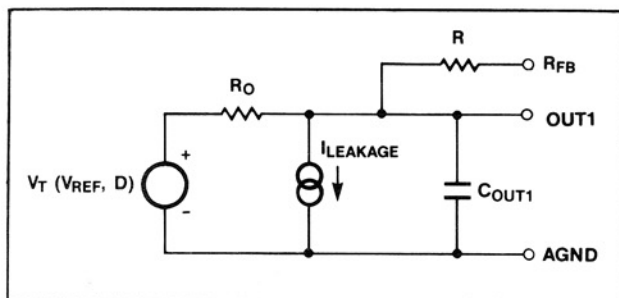

Figure 2. MX7548 Equivalent Analog Output Circuit
Figure 2 shows the equivalent circuits for the MX7548 analog section. The $I_{LEAKAGE}$ current sources represent junction and surface leakage currents. The equivalent output resistor of the DAC is R_o , which varies with digital input code from $0.8R$ to $2R$ (infinite at zero code), where R is typically 11k Ω . Capacitor C_{OUT1} represents the capacitances of the switches used in the R-2R ladder. When inputs are switched from low to high, the capacitance at OUT1 changes from about 40pF to 100pF. This capacitance is code-dependent and is a function of the number of ON switches that are connected to the output. $V_T(V_{REF}, D)$ is the equivalent voltage source controlled by V_{REF} and the digital input code (D).